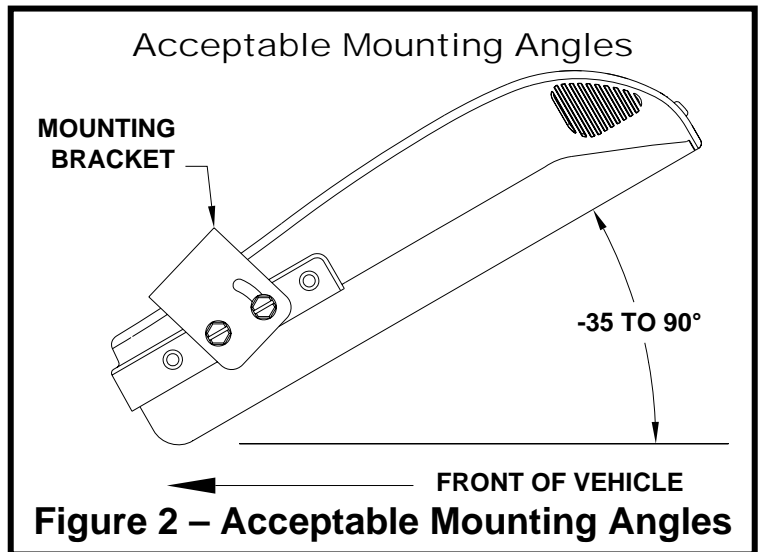

Figure 2 – Acceptable Mounting Angles
1. Install the mounting bracket to a solid surface under the tow vehicle dash using the two machine screws and fasteners provided. Tighten until snug. **See Figure 2 – Acceptable Mounting Angles and Figure 3 – Attachment of Mounting Bracket.**